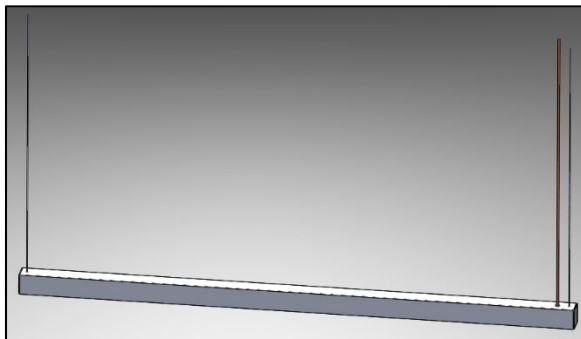

FIG. 2 - LINER
1. LINER LUMINAIRE. (Pre-assembled as shown in FIG. 2)